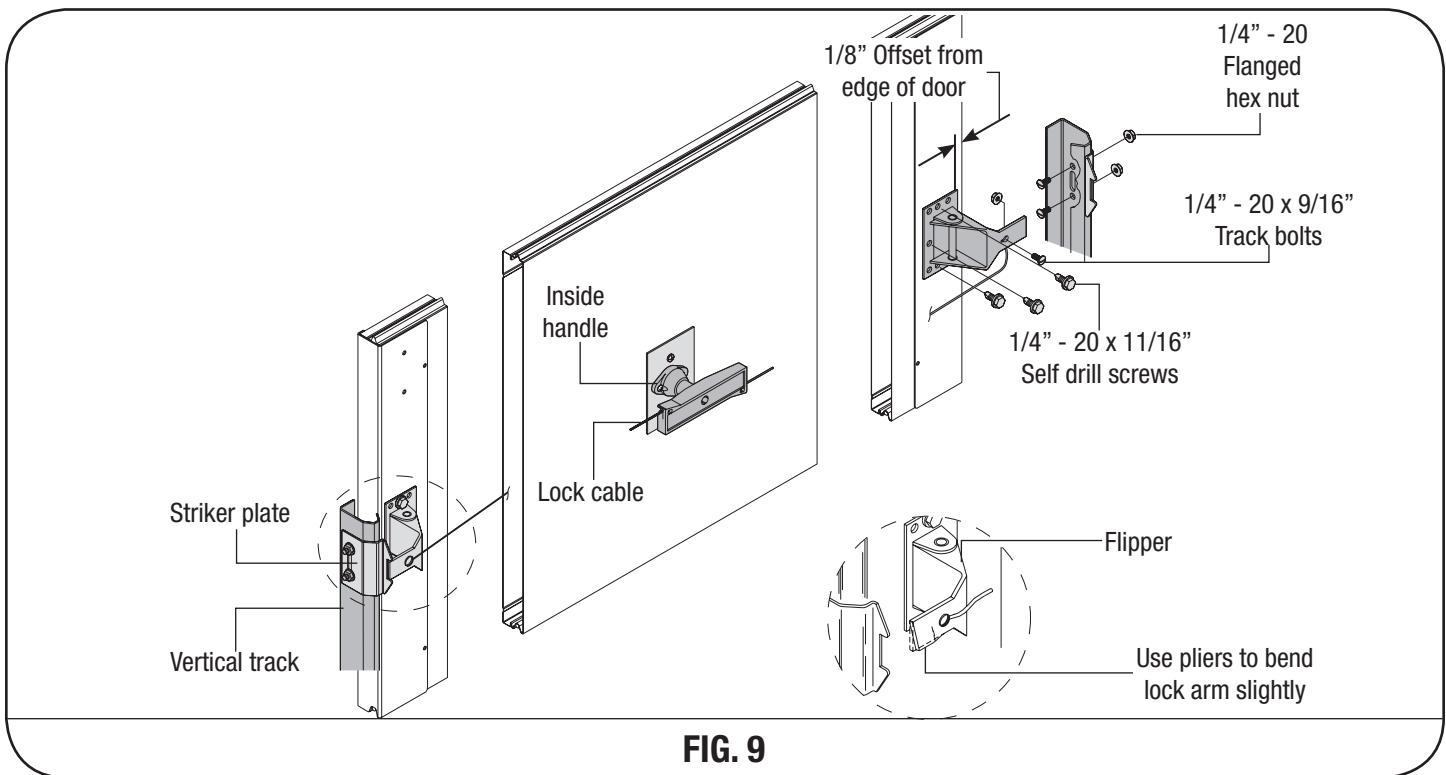

FIG. 9
Feed one end of the lock cable through the slotted hole of an Autolatch flipper and secure with (1) $1/4"$ - 20 x $9/16"$ track bolt. Pull the cable taut, but not enough to lift the flipper out of the striker plate. While holding taut, feed the lock cable through the slotted hole of the remaining Autolatch flipper, secure with (1) $1/4"$ - 20 x $9/16"$ track bolt and flanged hex nut, (**SEE FIG. 9**).